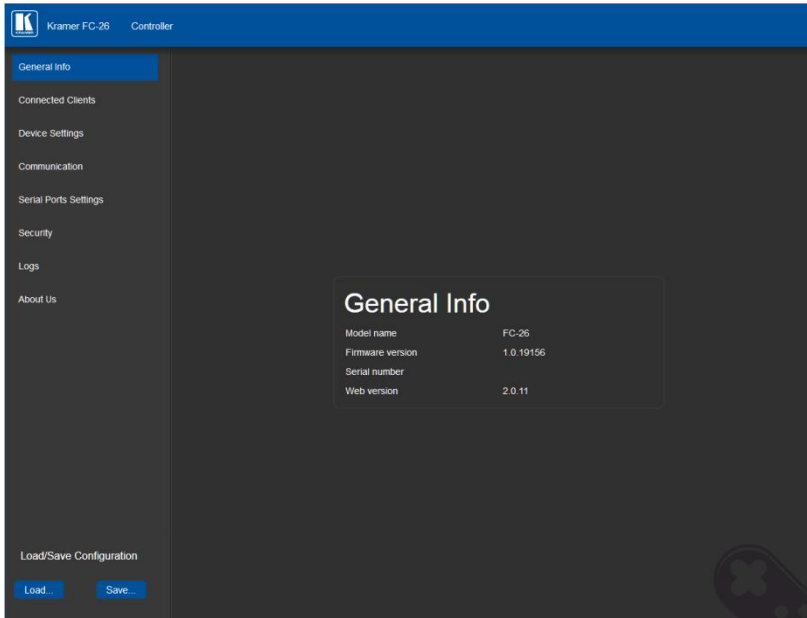

Figure 11: General Info Page
3. Using a Web browser and the IP address discovered in step 2, browse to the General Info home page (see Figure 11).
The Loading page appears followed shortly by the General Info page shown in Figure 11.